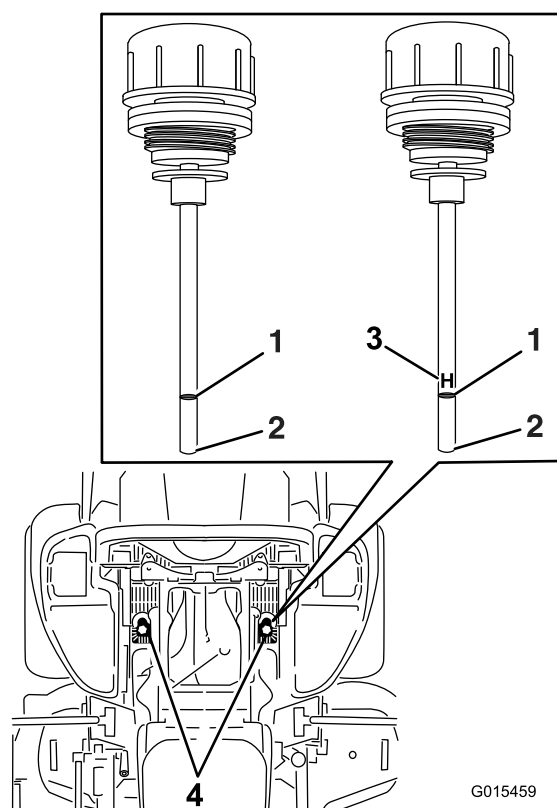

Figure 100
5. Clean the area around the dipsticks of hydraulic-system reservoirs (Figure 100).
6. Remove 1 dipstick from the hydraulic reservoir (Figure 100).
8. Remove the dipstick and look at the end (Figure 100).